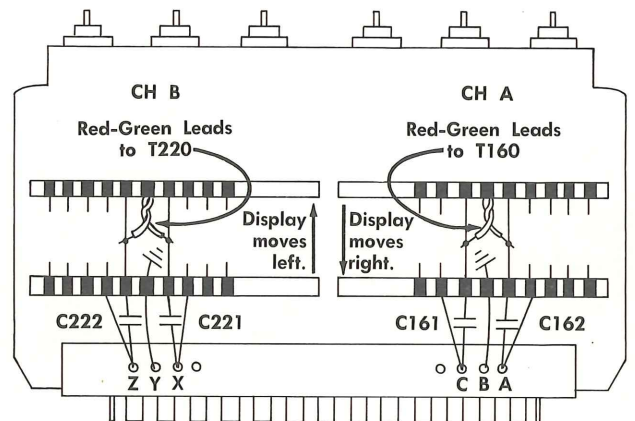

Fig. 5-13. Gate Generator parts location for adjusting co-channel time coincidence.
h. Fig. 5-13 shows the location of an adjustable time system on the Gate Generator subchassis. For example, if Channel A display should need to be moved to the right